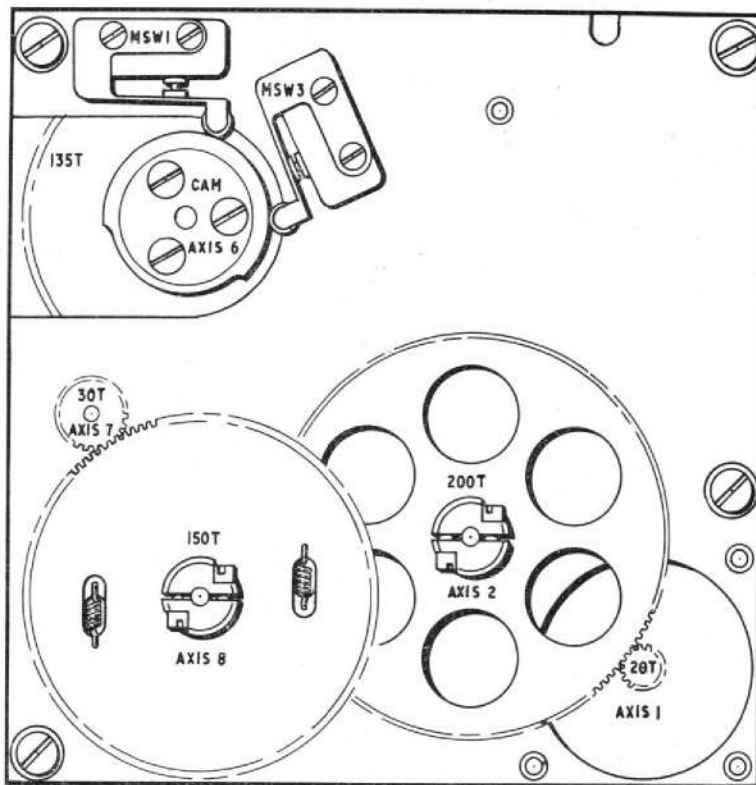
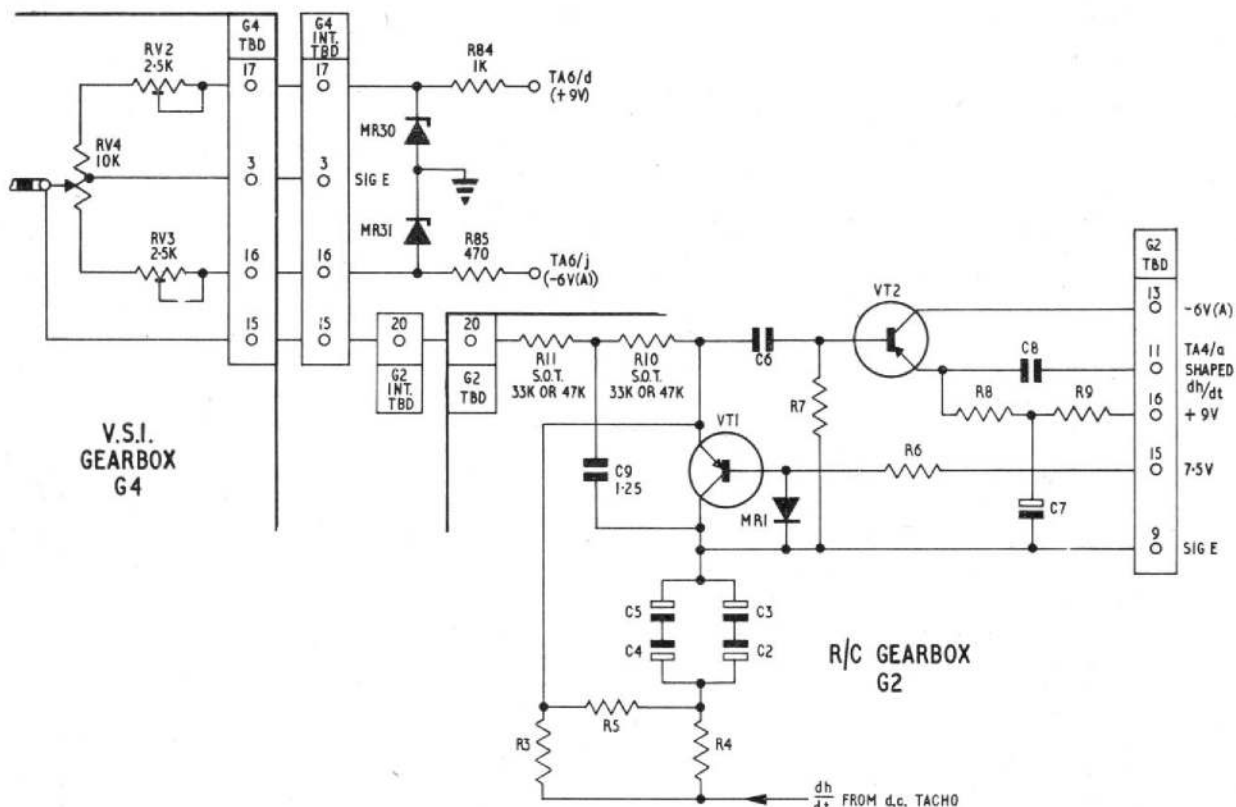

Fig. 5. Mach No. output gearbox (G5)—underside
Fig. 10. Vertical speed position feedback circuit—post serial number 132/63
(Chap. 7, fig. 10, 11 and 12)
- (1) Check that the connections to potentiometer RV3 comply with the circuit diagram.
- (2) Connect a valve voltmeter between pin 15 of the log Mach No. gearbox tagboard and pin b on TA5; the valve voltmeter should indicate approximately 6.25V.
- (3) Connect the valve voltmeter between pin 13 of the gearbox tagboard and pin b on TA5; the valve voltmeter should vary between an indication of zero and approximately 20V as the servo runs.
- (4) If the check of sub-para. (3) fails then measure the voltage between pins 2 and 3 of RV3. This should be approximately 20V. Also measure the voltage between pin 1 (wiper) of RV3 and pin 3 of the gearbox tagboard. This should vary between zero and 20V as the servo runs.
**39.** Check that RV1 (Chap. 7, fig. 10) is so adjusted that when the 200T gear of axis 2 (fig. 5) is displaced one turn against the servo action it makes only one overshoot in each direction before becoming stationary.
**40.** Connect the valve voltmeter across C1, ensuring that the earth terminal of the meter is connected to the end of the capacitor further away from the motor-tachogenerator (Chap. 7, fig. 10).
is positioned approximately as shown in fig. 6. If positioned incorrectly release the clamping screws on RV3 (Chap. 7, fig. 10) and rotate RV3 until the follower takes up the correct position. Re-clamp the potentiometer and check the 20V balance.
46. Set S4, test set, Type 9B, to MACH NO. and check that the test set, Type 9B SERVO INDICATOR G1 reads  $00000 \pm 2$  divisions; if G1 is out of tolerance release the clamping screws of CX1 (Chap. 7, fig. 10) and rotate the synchro until the G1 reading is within tolerance. Reclamp the synchro.
83. In computers of serial numbers 133/63 and above the rate of climb (UP) potential of +9V d.c. is obtained from TA6 pin d and the rate of dive (DOWN) potential of -6V d.c. is obtained from TA6 pin j (fig. 10).